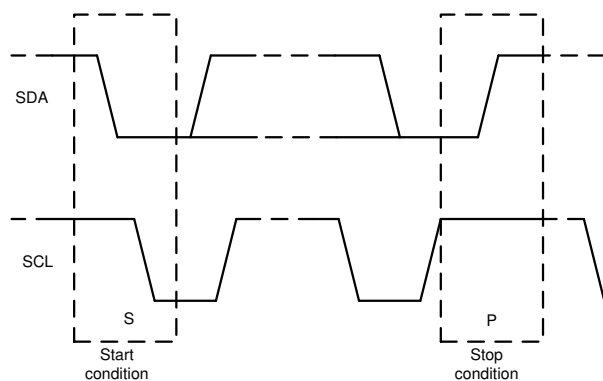

図 7-16. Start and Stop Conditions
1. The controller initiates data transfer by generating a start condition. The start condition is when a high-to-low transition occurs on the SDA line while SCL is high, as shown in 図 7-16. All I²C-compatible devices recognize a start condition.
4. To signal the end of the data transfer, the controller generates a stop condition by pulling the SDA line from low-to-high while the SCL line is high, as shown in 図 7-16. This action releases the bus and stops the communication link with the addressed target. All I²C-compatible devices recognize the stop condition. Upon receipt of a stop condition, the bus is released, and all target devices then wait for a start condition followed by a matching address.